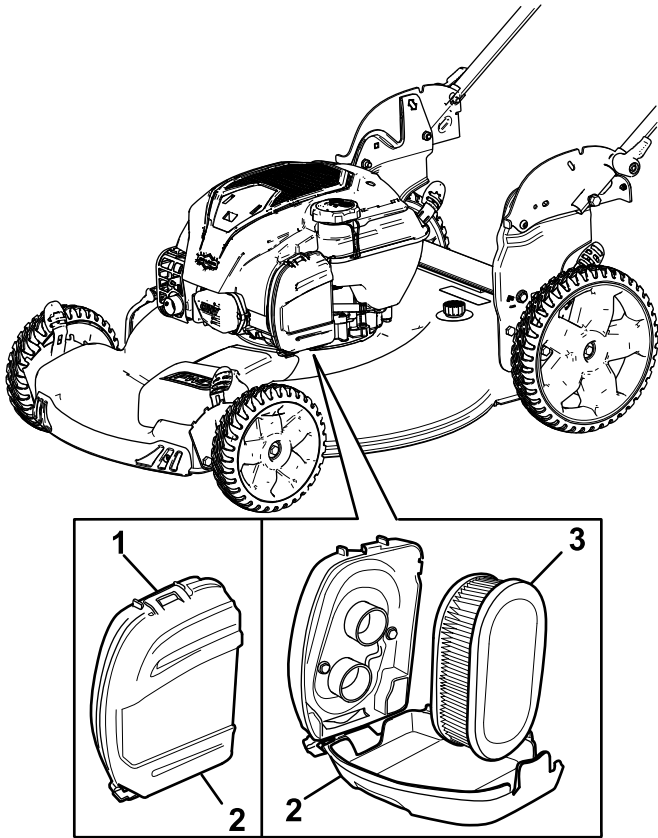

Figure 21
1. Unclip the top of the air-filter cover (Figure 21).
2. Remove the air filter (Figure 21).